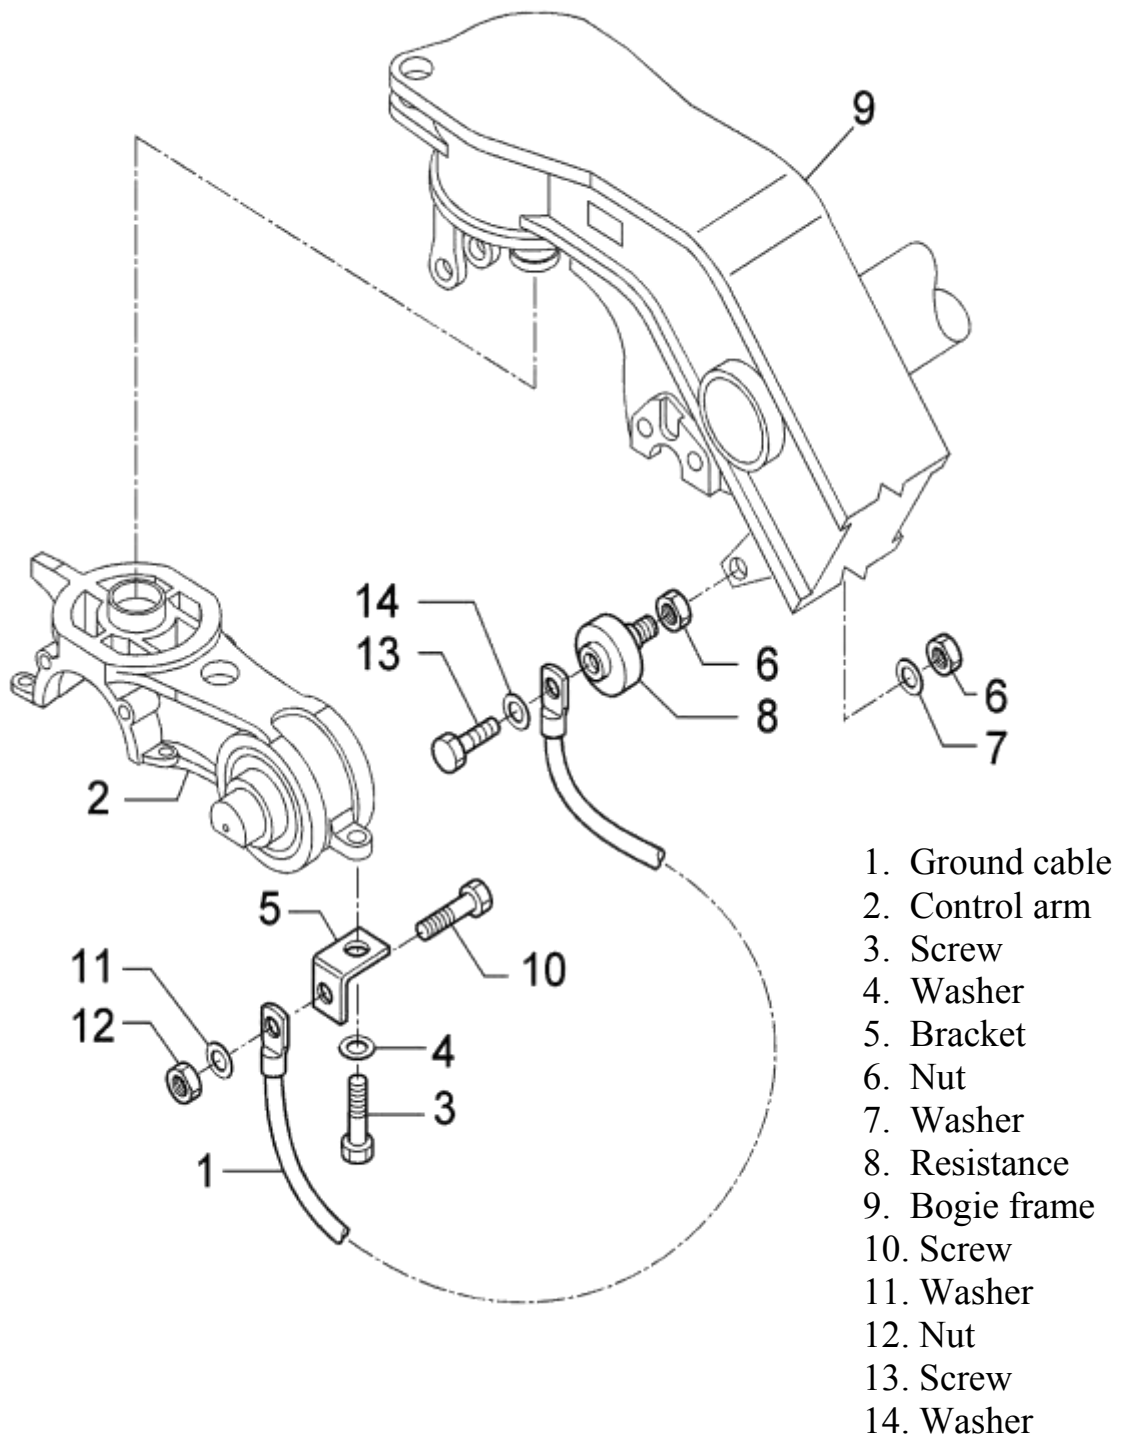

FIG. 4.43 Removing the Ground Cables
Remove the ground cables (1 - FIG. 4-43) from the primary suspension (2) extracting the screw (3) and washer (4) which fix the bracket (5) to the control arm and the nuts (6) and washer (7) which fix the resistance (8) to the bogie frame (9).